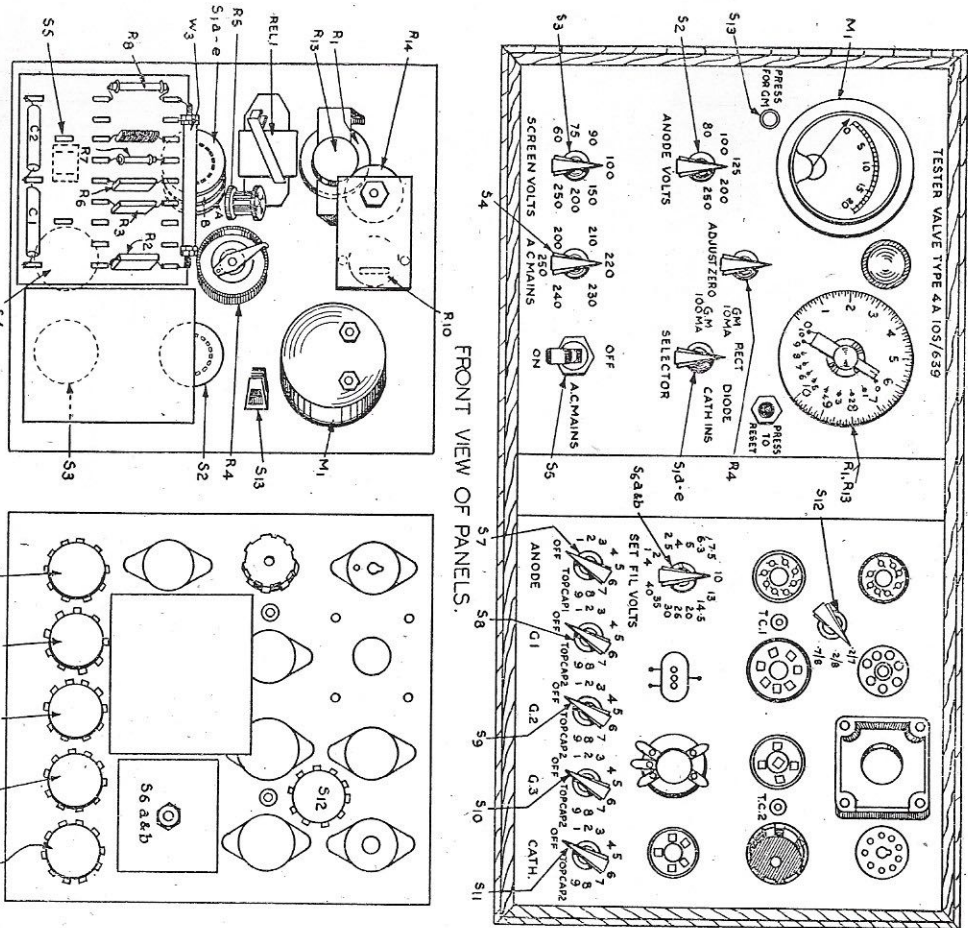

Fig. 1.—Front and rear views of panels
4. The valve tester comprises two units which are housed in a substantial wooden case. General views of the tester are given in fig. 1.
19. This valve tester, of which an illustration is shown in fig. 1, is conventional in construction. It comprises two units mounted in a wooden case. The left-hand panel accommodates the mutual conductance and cathode-heater test circuits, associated switching, and the mains transformer  $T_1$ , which provides the test potentials for these circuits. The right-hand panel has mounted on it the various test valve holders and also the switches  $S_7$  to  $S_{12}$ . These switches connect the required test circuit to the appropriate valve holder. The tapped filament transformer  $T_2$  is mounted on the underside of the panel and the switches  $S_{6A}$  and  $S_{6B}$  apply the required filament voltage to the valve under test.
20. These operational instructions should be used in conjunction with the front panel illustration in fig. 1. Set the main adjusting switch  $S_4$  to the correct voltage and connect the valve tester to the mains. The mains supply should be between 200 and 250 volts, 40 to 100 cycles. Switches for the anode, screen grid, control grid, suppressor grid and cathode are provided, to enable correct connection to be made to any of the valve holders fitted. The appropriate switch should be set, in accordance with the information given in the appendix, to the correct valve pins of the valve under test. Always set the switches to the positions listed in the Appendix before inserting the valve.